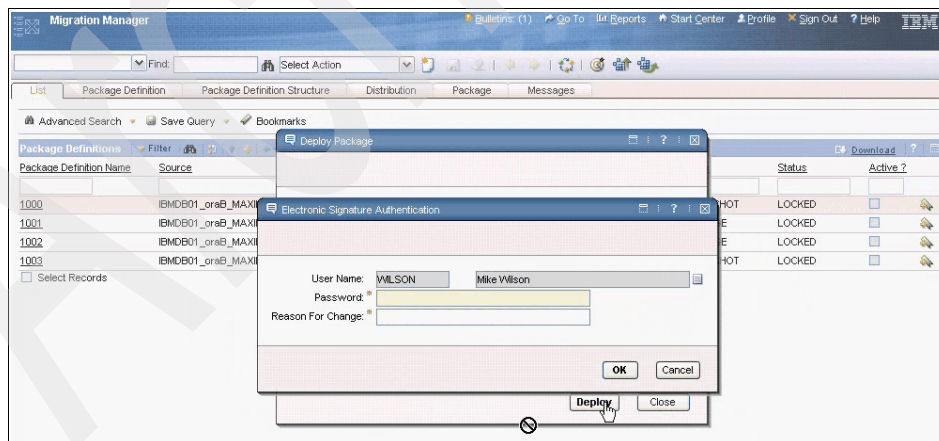

Figure 8-52 Package deployment authentication
10. A new dialog box is displayed, prompting you for electronic signature authentication (see Figure 8-52). To continue, you have to provide the password for the user specified.